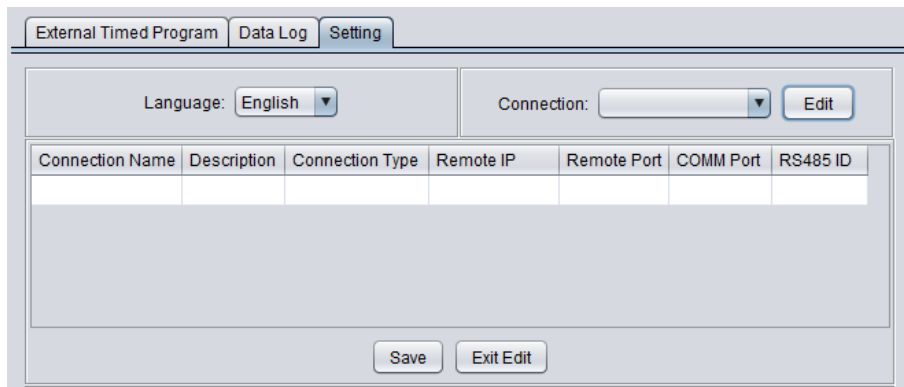

Figure 7.13
- Click on “Edit” to access the connection settings. See **Figure 7.13**